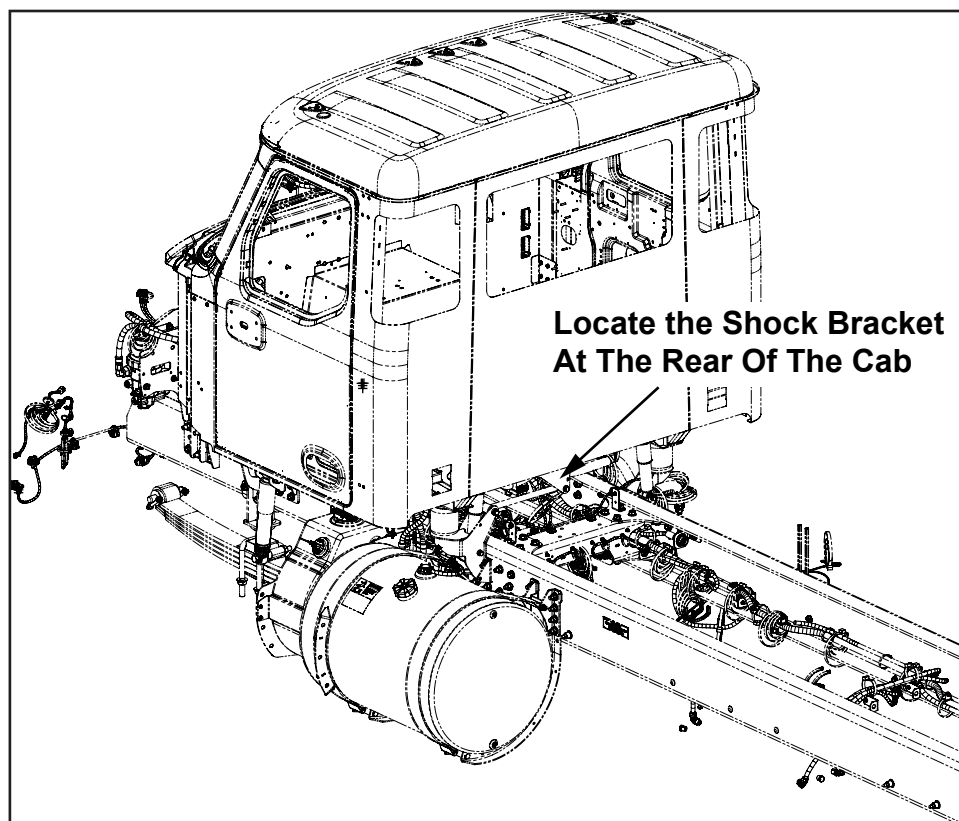

Figure 1
2. Locate the cab shock bracket at the rear underside of the cab (see Figure 1).